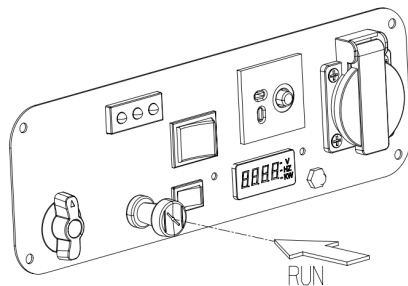

Figure 10 The choke lever in RUN mode.
4.4 Push back the choke lever when the engine is warm. See figure 10.